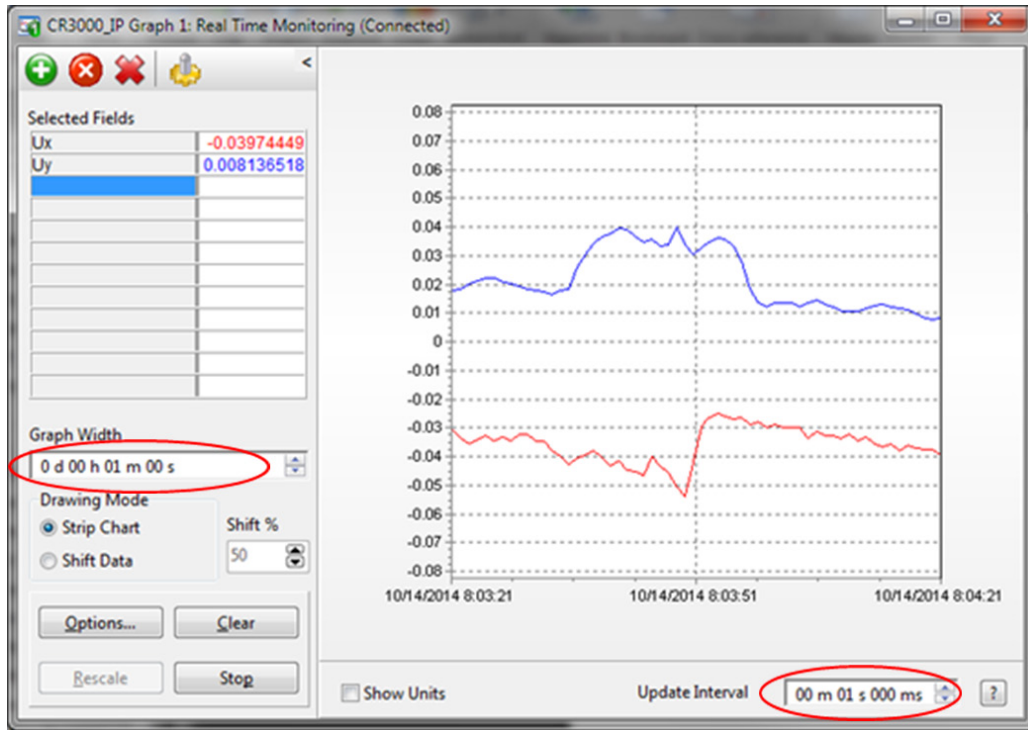

FIGURE 9-3. CSAT3B real-time data with 1 sec update and u_x and u_y wind component graphed
- a. On the first graph add the u_x and u_y wind components and set the y limits from -0.08 to 0.08 as shown in FIGURE 9-3.